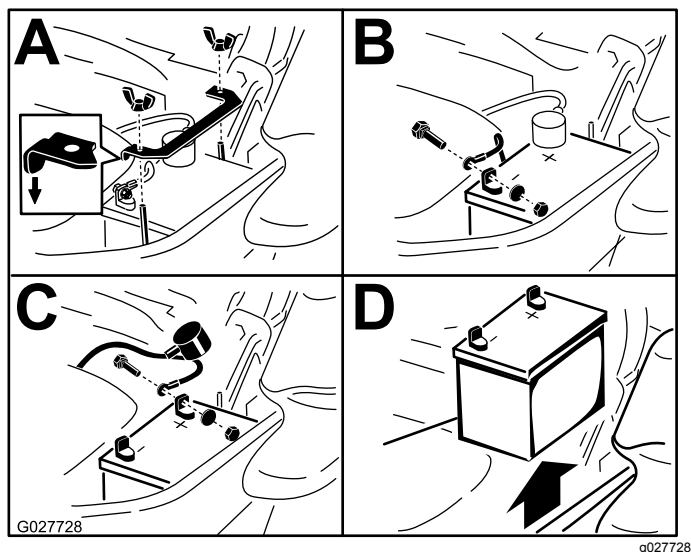

Figure 66
3. Remove the battery as shown in Figure 66.
Note: Position the battery in the tray with the terminal posts opposite from the hydraulic tank (Figure 66).